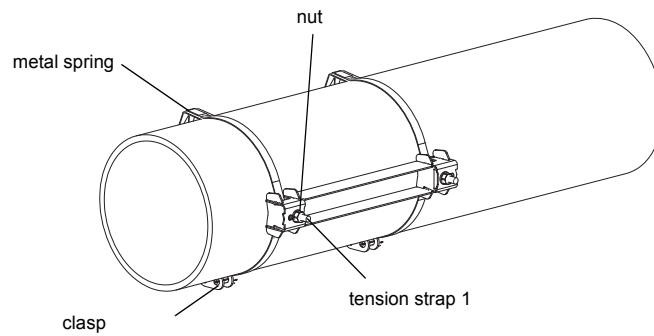
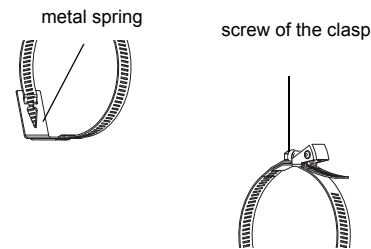

Fig. 9.20: Rail on the pipe
Fig. 9.22: Tension strap with quick release clasp and metal spring
- Insert the tension strap into tension strap clamp 1 (see Fig. 9.20).
- Tighten the nut of tension strap clamp 1, but not too firmly in order not to damage the tension strap (see Fig. 9.20).
- Insert the tension strap into tension strap clamp 1 and the metal spring (see Fig. 9.22 and Fig. 9.20).
- Insert the tension strap into tension strap clamp 1 and the metal spring (see Fig. 9.20 and Fig. 9.23). It is not necessary to mount the metal spring: